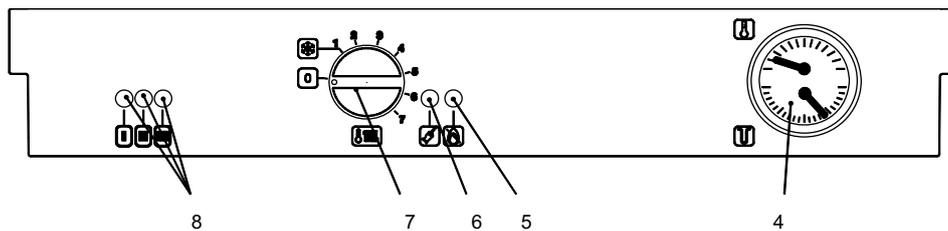

Figure 3.2
Three lights (8 in Fig. 3.2) give detailed indication regarding the operation of the boiler. The following table gives the relationship between each of the possible light combinations and their meaning.
- Ensure that the Central Heating circuit is regularly filled with water checking that the pressure indicated on the temperature and pressure gauge (4 on figure 3.2) is not lower than 1 bar (14.5 psi) as shown on figure 5.1.